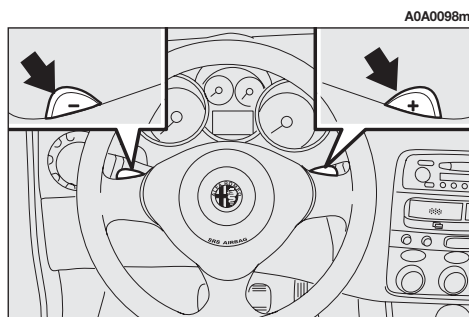

fig. 105
- steering wheel stalks (**fig. 105**), which can be operated only when the car speed exceeds 2 km/h.